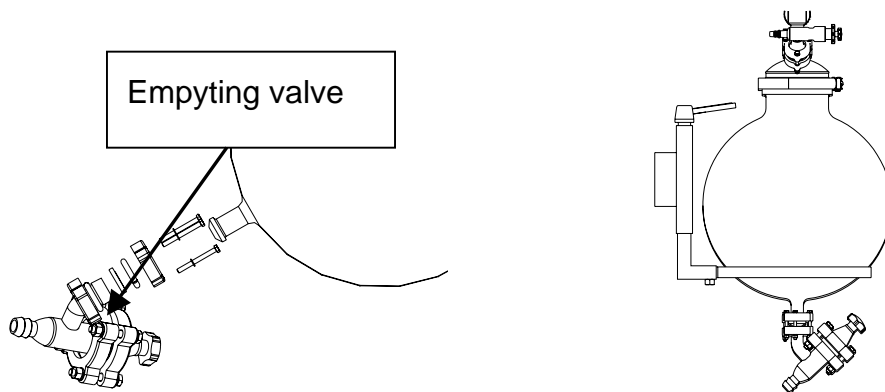

Figure 29.
(Refer to figure 29)
- Take the panel for the side opposite to the console (see figure 29)